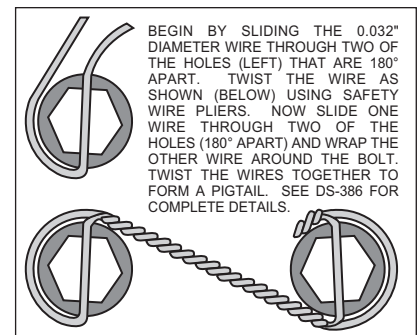

Figure 3. Safety Wire Diagram
- The caliper mount bracket assembly (1) should be installed first with clean, dry threads on the mounting bolts. Install the bracket using the original caliper mount bolts. The bracket must tighten squarely against the outboard side of the caliper mount bosses on the spindle body. Inspect for interference from casting irregularities, machining ridges, burrs, etc. Use one thin shim (2) between the bracket and spindle during initial trial fitting. Later, after the caliper, pad, and rotor alignment has been checked, and any necessary shims have been put in place, the mount bolts should be coated with red *Loctite*® 271 and torqued to 65 ft-lbs.
- Assemble the rotor (3) to the hat (4) with the bolts (6) and washers (5) as indicated in the configuration pictured in Figure 1. Be sure all bolts thread in smoothly and are snug. Then, torque all bolts in an alternating sequence to 85 **in-lbs**. The rotor mounting bolts (6) must be lockwired using standard 0.032 inch diameter stainless steel safety wire as shown in Figure 3. Please refer to Wilwood's data sheet DS-386 (available at [www.wilwood.org/ds386.pdf](http://www.wilwood.org/ds386.pdf)) for complete safety wire installation instructions.
- Install one shim (11) over each stud (10) on the radial mount bracket (1). Slide the caliper (7) in place over the studs and rotors and install the washer (9) and lock nut (8) to hold the caliper in place. The caliper bleed screws should be pointing up. Snug the lock nuts (8) and check that the rotor (3) is centered in the caliper (7). Add or subtract .015" shims (2) as necessary between the mount bracket and the spindle to center the caliper.